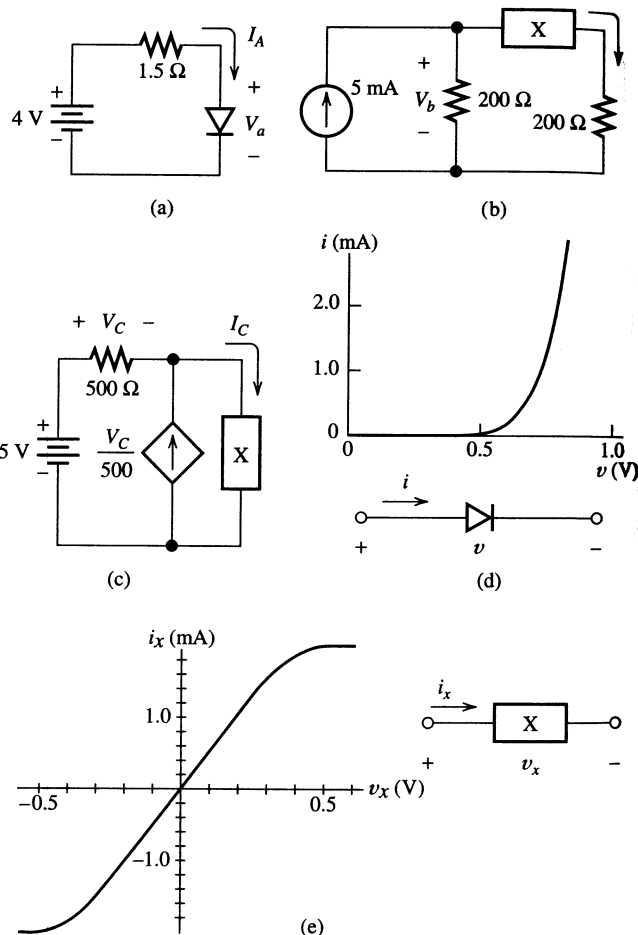

Figure P3.9
3.9. Use graphical load-line analysis to find the currents and voltages labeled in the circuits shown in Figure P3.9. The device characteristics are illustrated in Figures P3.9d and e.